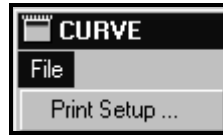

Figure 3-103. Curve Dialog - File Menu
The **CURVE** dialog contains only one (1) menu selection as shown in Figure 3-103. **File > Print Setup ...** is discussed below.
- ❑ **CURVE > File > Print Setup ...**: Selecting **Print Setup ...** from the **File** menu on the **CURVE** dialog shown in Figure 3-103 causes the standard **Windows Print Setup** dialog to appear. Print properties, i.e., landscape, portrait, printer, etc., may be set as desired using this dialog as with any other Windows-based software. These settings affect only how and where calibration curves and correlation tables are printed.